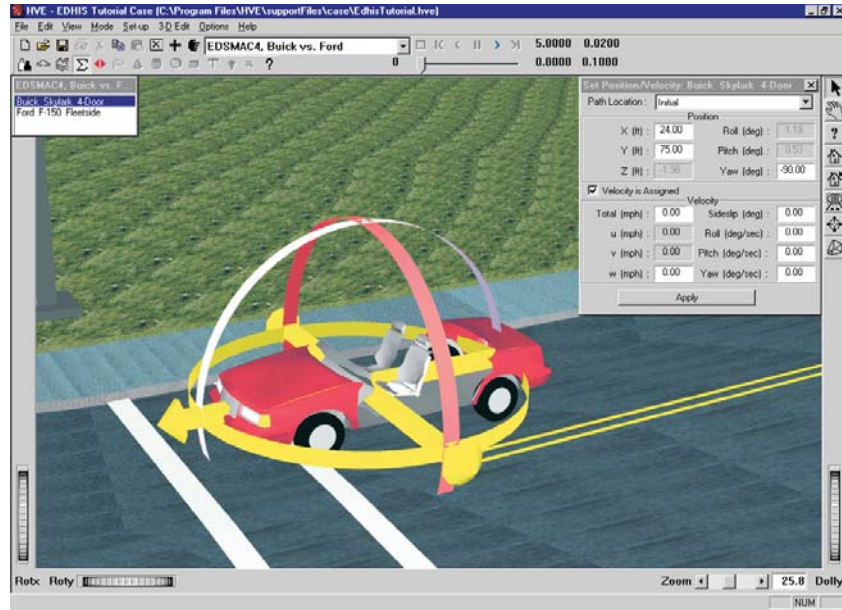

Figure 5-10 Positioning the Buick Skylark using the manipulators.
- Click on the vehicle's X-Y manipulator (see Figure 5-10), wait for it to turn bright yellow (indicating it has been selected), and drag it to its impact position, X=24 ft, Y=75 ft. Click the yaw manipulator and rotate it to its heading angle, -90 degrees.
NOTE: To select the X-Y manipulator, the viewer must be in Pick mode, as indicated by the highlighted arrow in the upper right corner of the viewer (see Figure 5-10).